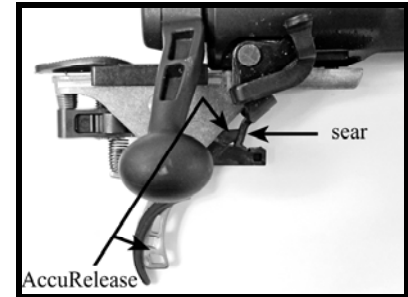

FIGURE 20
PULLING THE TRIGGER FROM THE SIDE OR NOT DIRECTLY REARWARD (SEE FIGURE 18) WILL CAUSE THE SEAR TO DISENGAGE AND BE BLOCKED BY THE ACCURELEASE (SEE FIGURE 20). ALTHOUGH A 'CLICK' MAY BE HEARD, THE SEAR IS BLOCKED, PREVENTING THE FIRING PIN FROM HITTING THE PRIMER. WHEN THIS HAPPENS, THE BOLT MUST BE RAISED AND LOWERED TO 'RECOCK' THE FIREARM.
5. The ACCURELEASE adds an additional level of safety by blocking the sear (see FIGURE 20) if the rifle is accidentally jarred or dropped with the safety in the “FIRE” position.
EXCESSIVE JARRING OR PULLING THE TRIGGER WITHOUT DEPRESSING THE ACCURELEASE MAY CAUSE THE SEAR TO MOVE (SEE FIGURE 20). AS DESIGNED, THE ACCURELEASE WILL PREVENT ACCIDENTAL DISCHARGE BY ‘LOCKING’ THE TRIGGER WHEN USED PROPERLY, MAINTAINED AND SERVICED REGULARLY. IN THIS EVENT, THE BOLT MUST BE RE-COCKED IN ORDER TO RESET THE SEAR.
WHEN THE SEAR IS BLOCKED BY THE ACCURELEASE (SEE FIGURE 20), THE FIRING PIN IS RESTRAINED WITHIN THE BOLT ASSEMBLY, PREVENTING IT FROM HITTING THE PRIMER. THE ‘CLICK’ THAT IS HEARD IS THE ACTUAL SEAR BEING BLOCKED BY THE ACCURELEASE, NOT THE FIRING PIN!